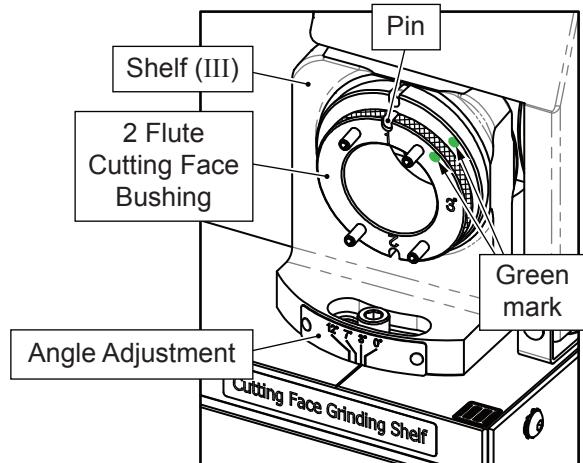

Fig. 7-2
2. Cutting Face Grinding Shelf (III) (Fig. 7-2)
- ① Adjust Shelf (III) to  $3^\circ$ .
- ② Insert 2 Flute Cutting Face Bushing to Shelf (III), align the ● Green mark of the Bushing with the ● Green mark on the shelf, then insert it to the end.